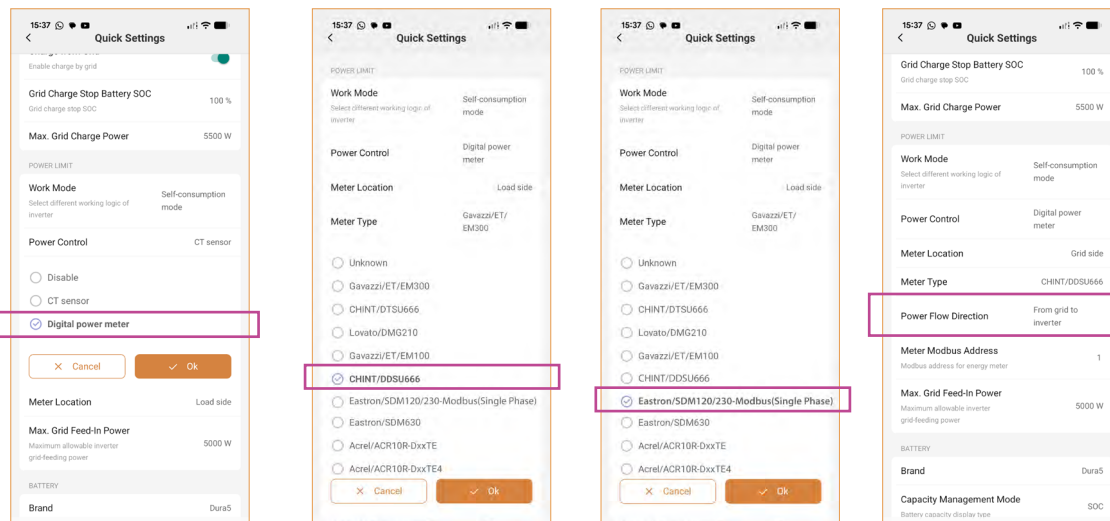

Figure 18.
3. For "meter type" select the CHINT or Easton as shown in **Figure 18**, below.